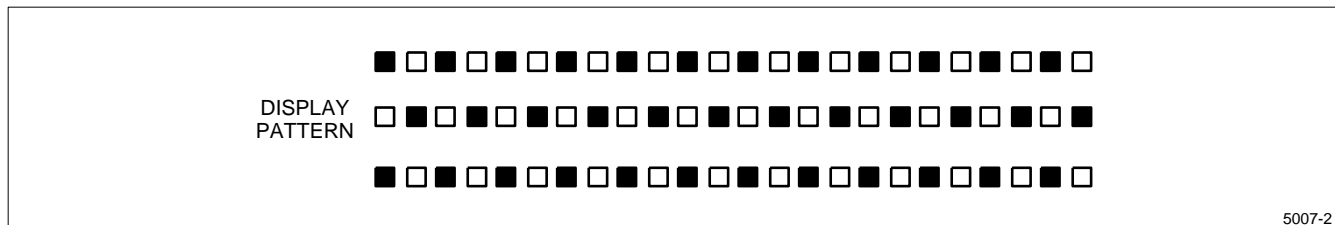

Figure 3. Display High Frequency Pattern
3. Display high frequency pattern: V_{DD} = 5 V, V_{EE} - V_{SS} = -18.9 V, frame frequency = 85 Hz, display pattern = 1-bit checker (Figure 3).